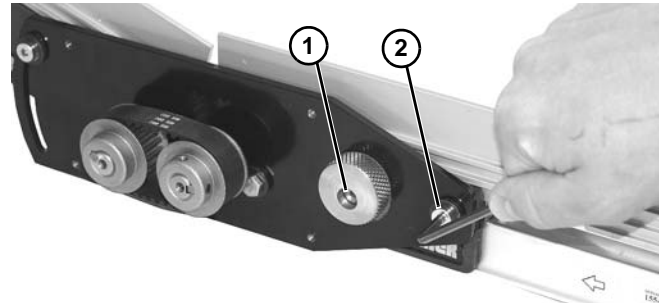

Figure 82
- Tighten low head cap screw (**Figure 82, item 1**) in cam to lock belt tension.
- Tighten screw (**Figure 82, item 2**) to 60 in-lb (7 Nm) to secure position.